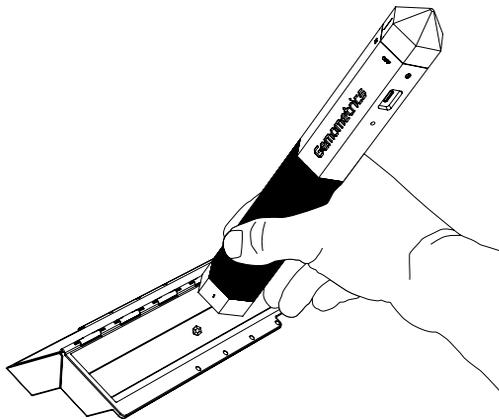

Figure 5
Rotate GemPen® and examine the LED indicator next to the USB-C port on the unit. If it glows in the color of white the unit can be used for testing gemstones. After GemPen® is switched on, hold and point GemPen® towards your gemstone. The filter glass should be within 30-50 mm from the gemstone. It is highly recommended to place your gemstone in the GemPen® Travel Case before switching GemPen® on. Depending on the position of the gemstone you may want to twist and tilt GemPen® for a more accurate result. When conducting a screening test, it should look like the illustration in figure 5.
- To increase accuracy, it is recommended to use the GemPen® Travel Case as shown in the illustration in figure 5.